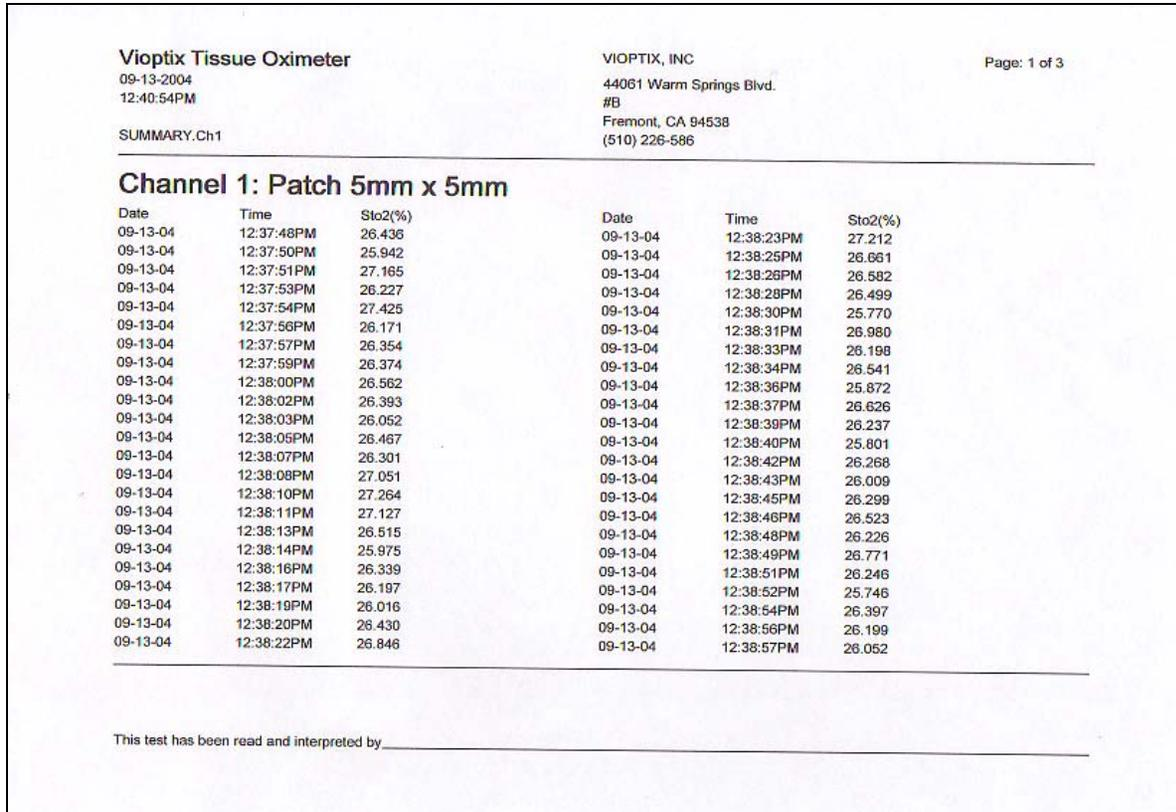

Figure 40. Print Summary Report
- Figure 40 displays the printed Summary Report output. It shows StO₂ data points in numerical format, with the time displayed in selected increments (as chosen in the Review screen's zoom feature).